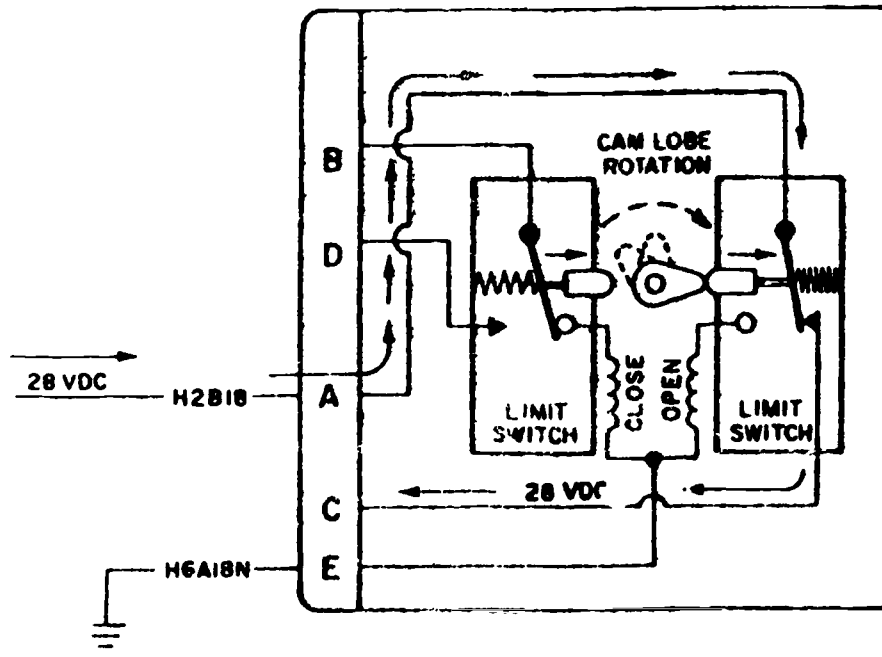

Figure 5.
(2) Look at figure 5 and note that as the motor armature starts to rotate toward open, the valve shaft and cam lobe start turning in the direction of the arrow above the cam lobe. The cam shown by the dotted lines indicates where the cam lobe was.
(3) Note that as the cam lobe is turned, the limit switch button for the closed side of motor 1 is released. Remember these switches are spring loaded. This action sets the close side of the motor valve up for operation again if the control switch was placed in the closed position.
(4) As the cam lobe reaches full travel (shown by the solid cam lobe), the limit switch button for the open circuit has been depressed and as a result voltage is removed from the open field winding. This voltage is now rerouted to check point C of the connector plug. In the following exercise, we will use this voltage to operate motor valve #2.